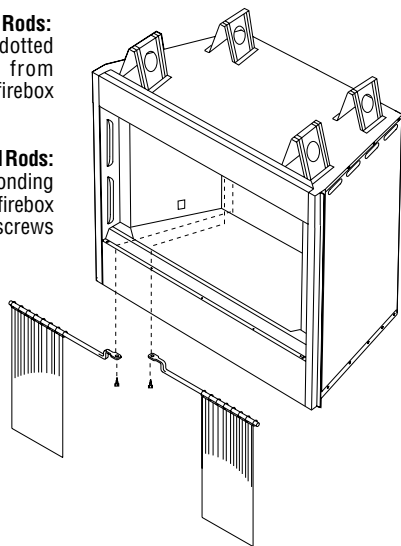

Figure 10
Step 1. Using a 5/16" nut driver or socket, remove the screen and rod assemblies as shown in **Figure 10**.
Step 3. Reinstall screen and rod assemblies (see **Figure 10**).